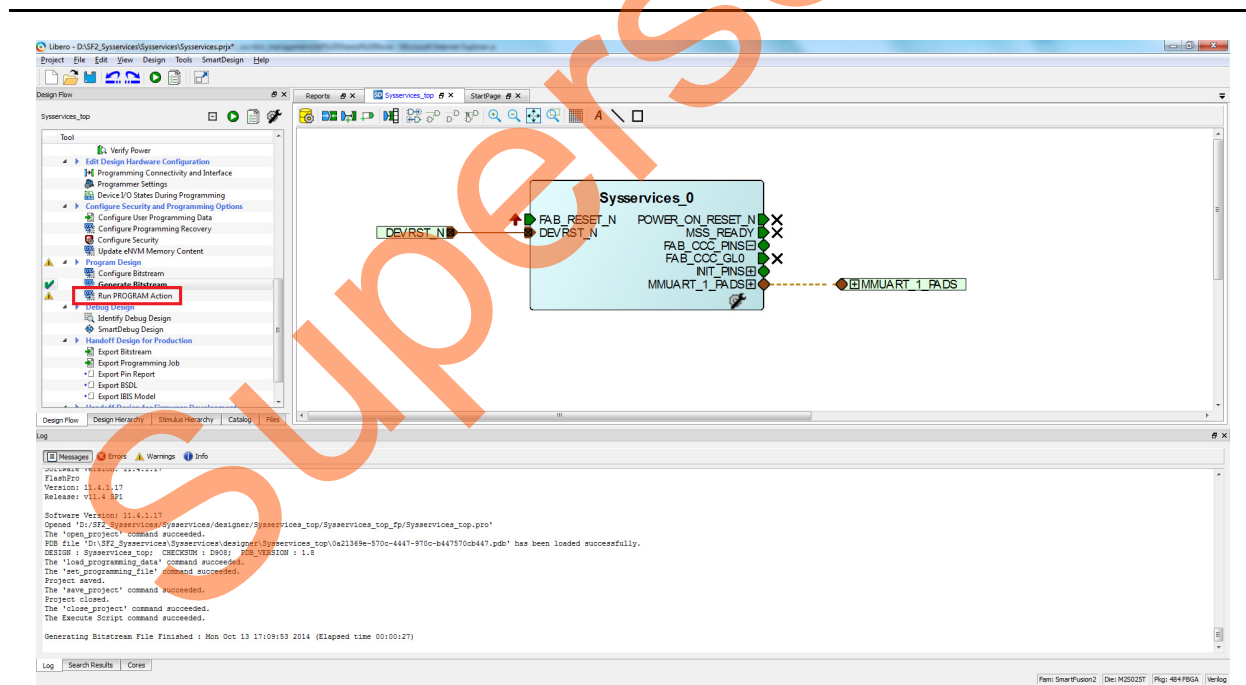

Figure 20 • Run Program Action
5. To program the SmartFusion2 device, double-click **Run PROGRAM Action** in the **Design Flow** tab as shown in Figure 20.